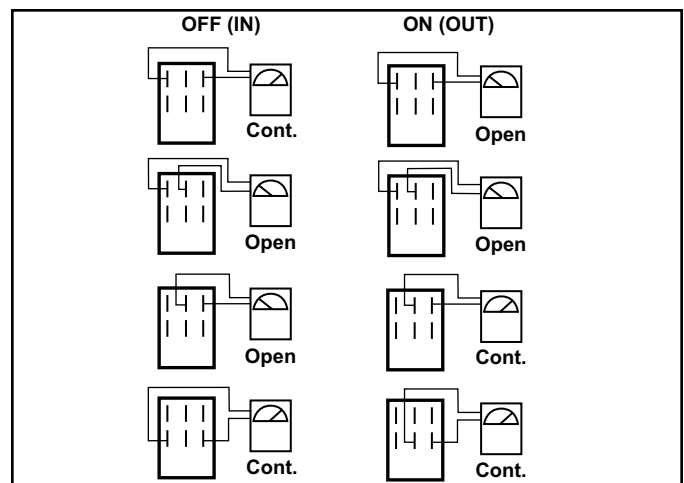

Fig A5 002
5. Verify that there is continuity between the appropriate terminals in the ON and OFF positions (Fig. A5 002).